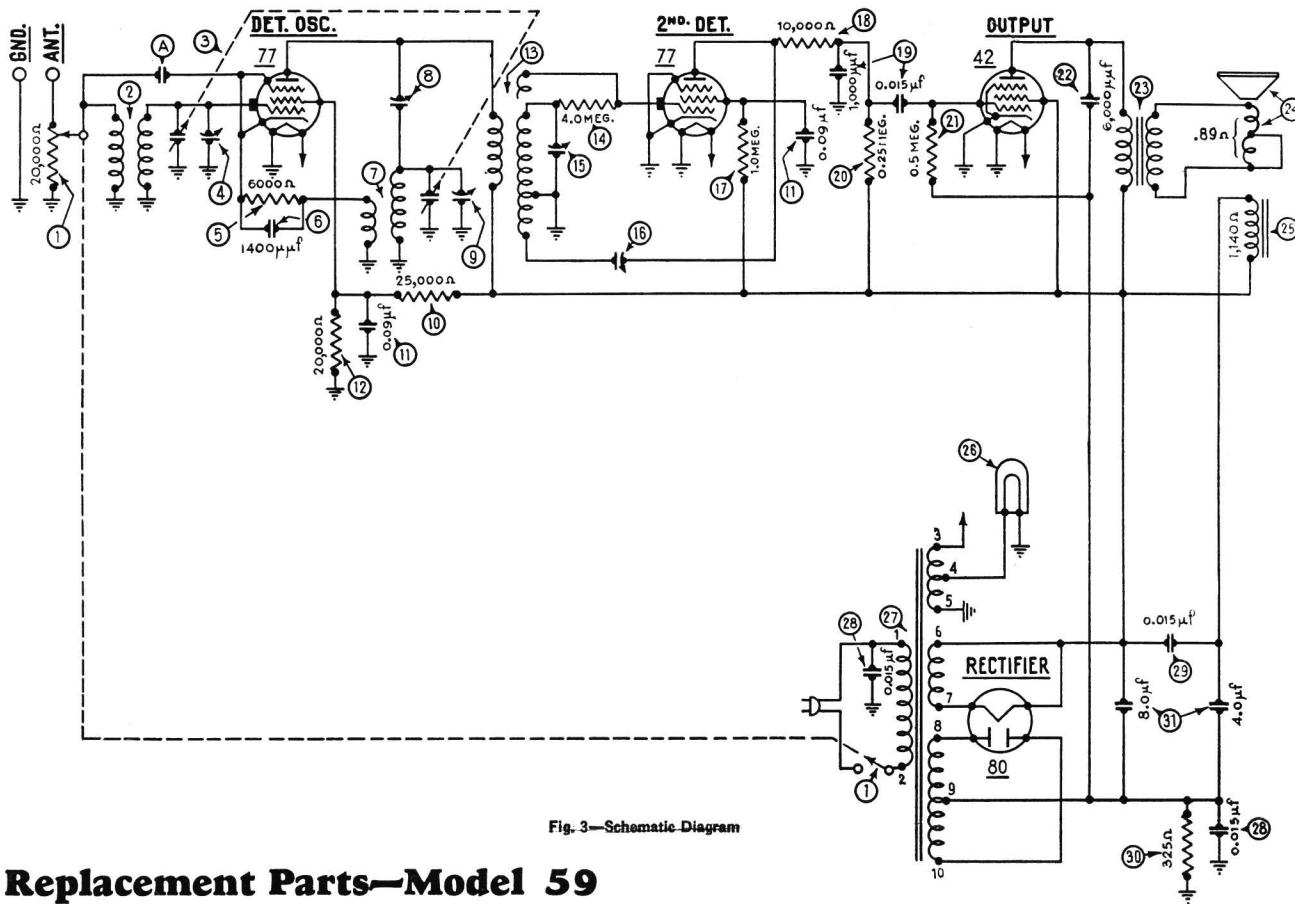

Fig. 3—Schematic Diagram
Referring to Fig. 3, the I. F. primary and secondary condensers ⑧ and ⑩ should be adjusted first. Use an accurate signal generator such as the Philco Model 024. Remove the grid cap clip from the detector-oscillator tube and connect the antenna lead from the signal generator to the cap of this tube. Connect the ground lead from the signal generator to the ground terminal of the set. Connect the primary terminals of the output transformer to an output meter. Set the frequency switch of the signal generator at 460 K.C. (the I. F. of model 59), and turn the switches of the set and signal generator on. Turn volume control full on. Turn the dial pointer on the set to 600, and then adjust the I. F. compensating condensers ⑧ and ⑩ by means of a fibre wrench so that maximum reading is obtained in the output meter. If the needle goes off scale, adjust the attenuator on the signal generator so that a lower reading is obtained.